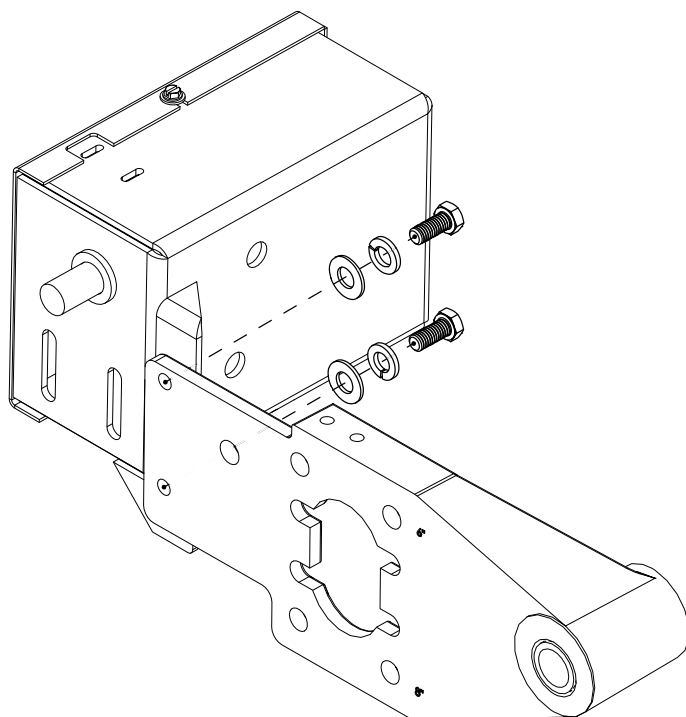

Figure 3. Install Solenoid Lock
3. Install the solenoid lock using the included hardware and a $\frac{1}{2}$ in open-end wrench, but do not tighten all the way (Figure 3).